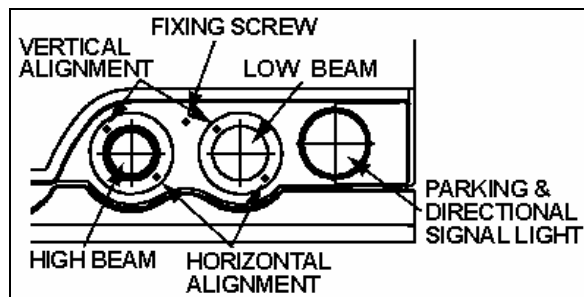

FIGURE 48: HEADLIGHT ASSEMBLY 06546
Headlight aim should be checked after installing a new bulb. Aiming can be performed without opening headlight assembly. Horizontal and vertical aiming of each module is provided by two adjusting screws that pivot the module in the housing for proper alignment (fig. 48). There is no adjustment for focus since the module is set for proper focus during manufacturing assembly.
- Make sure that headlight assembly fixing screw is properly fastened (Fig. 48).
If beam is offset, a LOW CANDLES message will appear. Using vertical and horizontal alignment screws, adjust beam as needed (fig. 48).